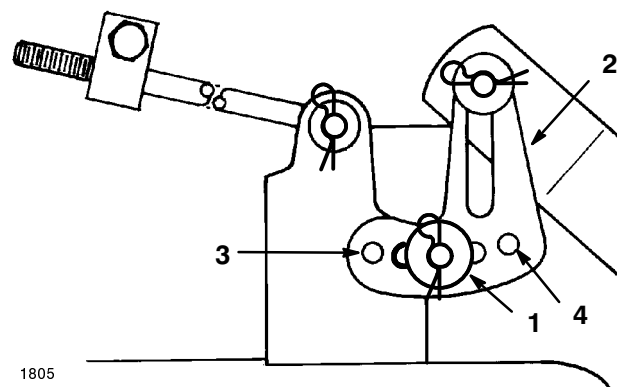

Figure 53
5. Remove the hair pin cotter and washer from the leveling bracket (Fig. 53). To level the blade(s), reposition the leveling bracket(s) in a different hole and install the washer and hair pin cotter. (Fig. 53). A front hole lowers the blade height and a rear hole raises its height. Adjust both sides as required.